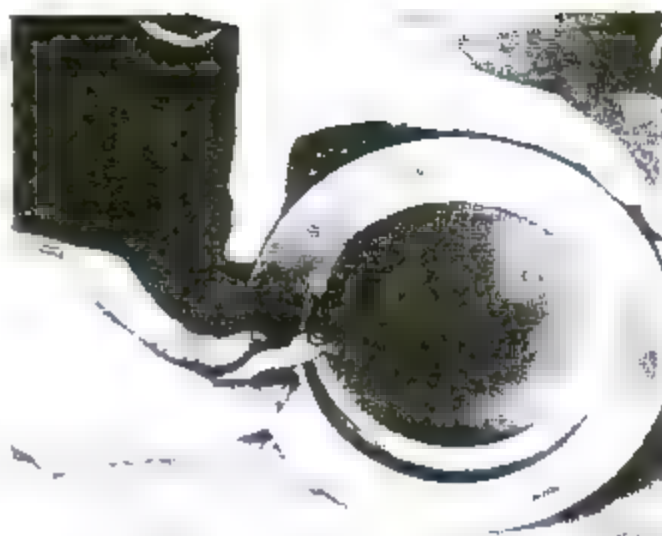

Figure 5-11. Inspecting Piston Ring Gap
f. Obtain the new set of rings to be used with each piston. Place each ring, individually, in the Group 5 piston ring gage and measure the gap. (See figure 5-11.) The gage ring has a center groove separating the standard size diameter side from the 0.005-inch oversize diameter side. If cylinder bore has been, or is to be, honed to 0.005-inch oversize, use 0.005-inch oversize rings and check them in the oversize side of the gage. Gaps must be within new part limits specified for ring in cylinder barrel. (See limits No. 30, 31 and 32, Section X.)